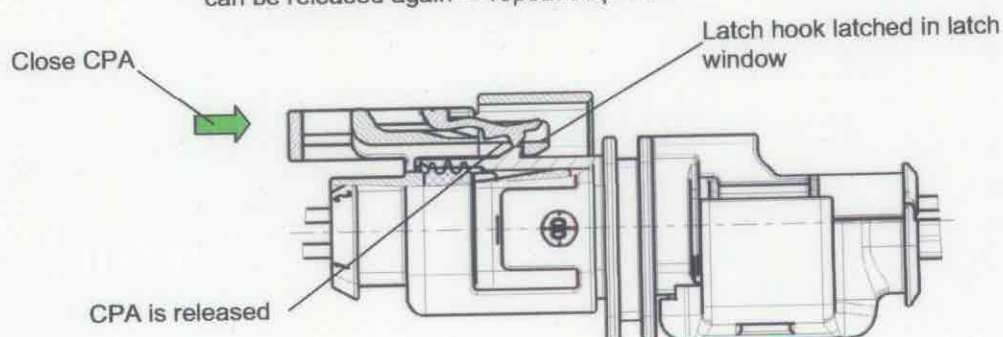

Fig. 4.1.2 CPA is released
- 3rd Step:** The plug connector is in the end position when the latch hook has snapped into the latch window. In this position the CPA is released by the latch hook and can be closed (Fig. 4.1.2).